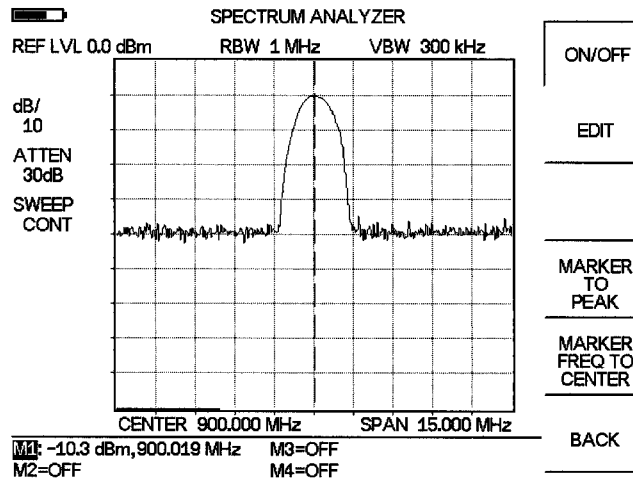

Figure 4-12. Activated normal marker
Step 19. Reduce the reference level to 0 dBm or manually peak the signal to the top reference level and adjust the frequency response to center the display using the marker function or center frequency function (Figures 4-12 and 4-13).